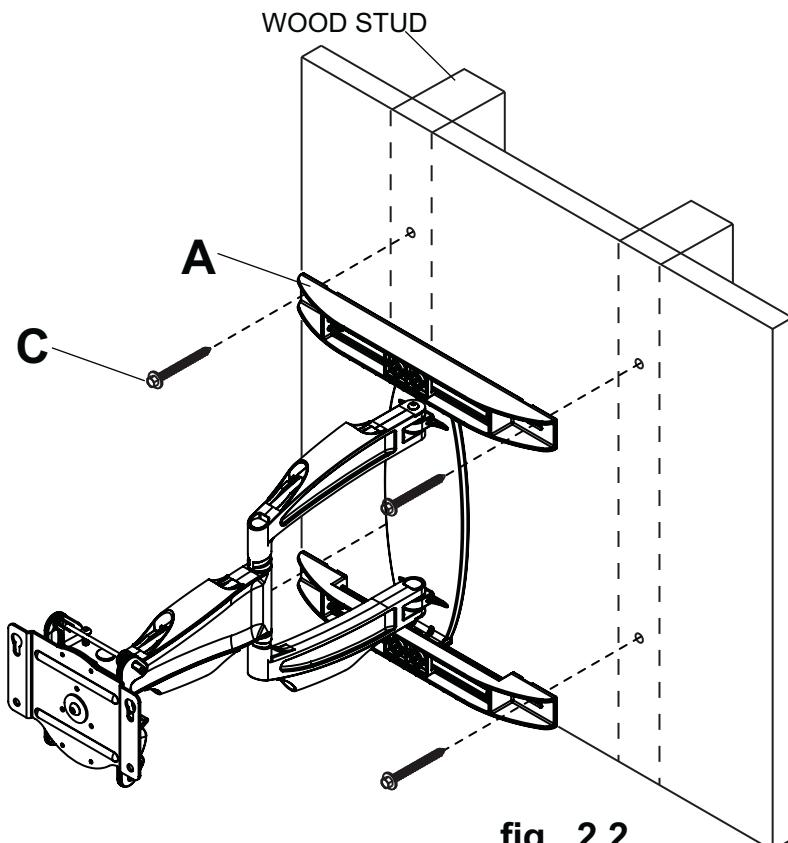

fig. 2.2
2 Using a stud finder, locate and mark the edges of the wood studs. Use of an edge to edge stud finder is highly recommended. Use a level to draw a vertical line down the center of each stud. Level wall plate template on wall and mark center of four mounting holes in center of each wood stud. Top mounting holes should be located "X" above desired screen center as shown in figure 2.1, according to chart 1 below. Drill four 3/16" (5 mm) dia. pilot holes to a depth of 3" (76 mm). Attach wall arm (A) to wall using four wood screws (C) as shown in fig. 2.2.